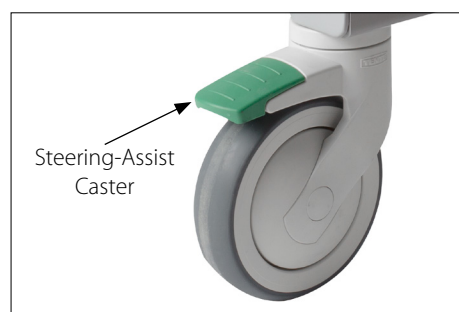

Figure 2
4. The Directional Caster (optional) (**Figure 2**), and supports easier handling of the cart around turns. It is recommended for turning when there is sufficient space (**Figure 2**).